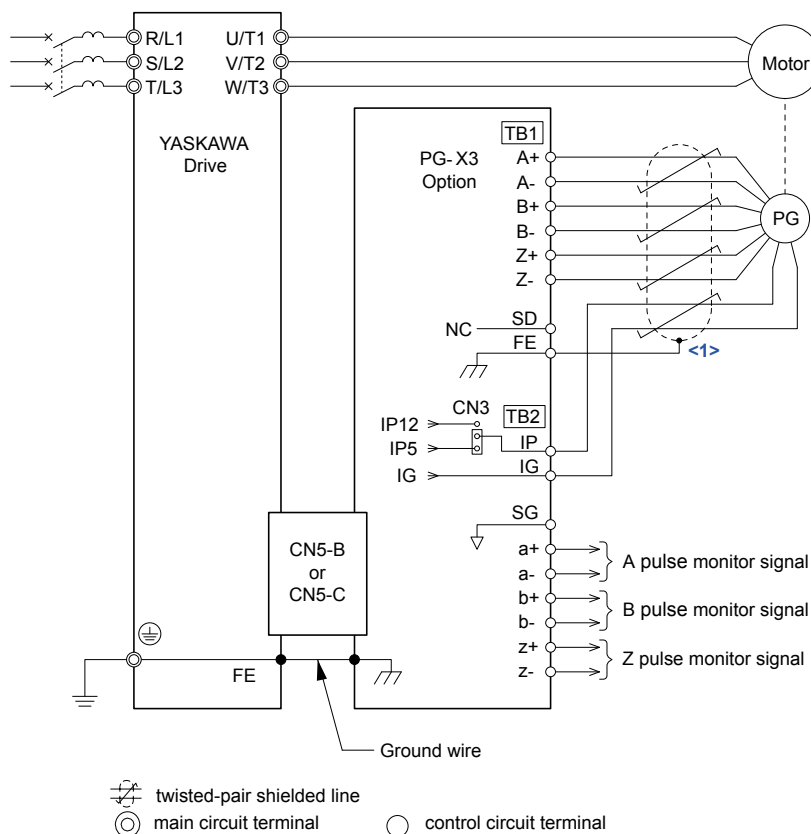

Figure 8.12 PG-X3 Option and Encoder Connection Diagram
5. Wire the motor PG encoder to the terminal block on the option. Refer to Figure 8.8 and Figure 8.12 for wiring instructions.